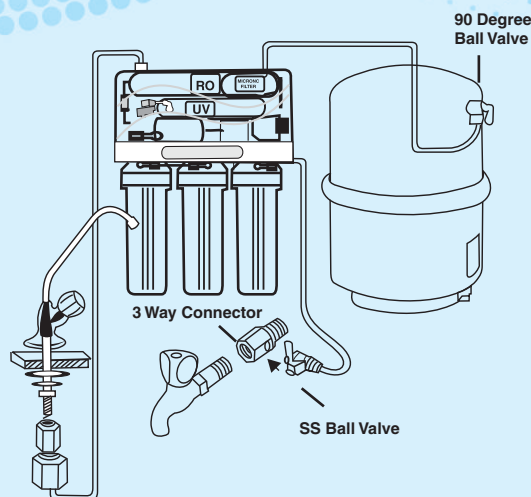

Figure 2
4. Connect the 3-way connector to the raw water supply as shown in the figure 2. The threaded end of the 3-way connector is fitted in line with the raw water supply. The other end can be connected to a tap or can be plugged off if not required.